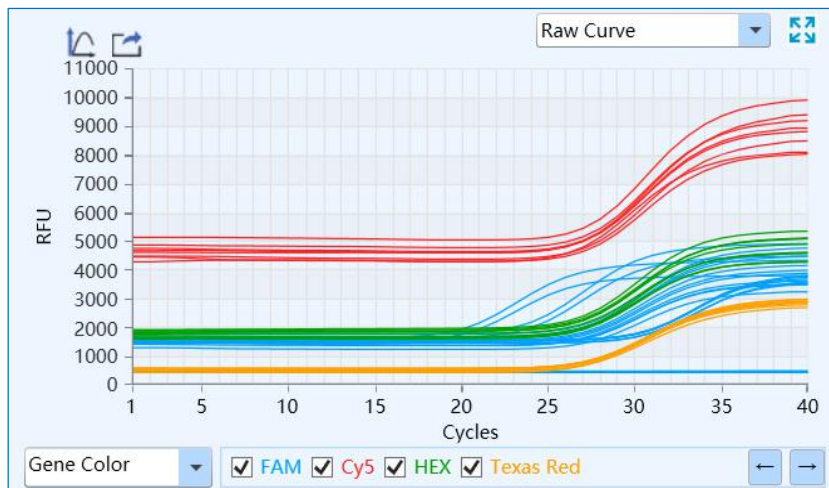

Figure D-9.5 Abs Quant analysis interface - Raw Curve functional module
- V. **Raw Curve:** display the diagram of raw amplification curve without subtract baseline, as shown in figure D-9.5. The parameters and function keys of raw curve functional module are same with those of amplification curve functional module.